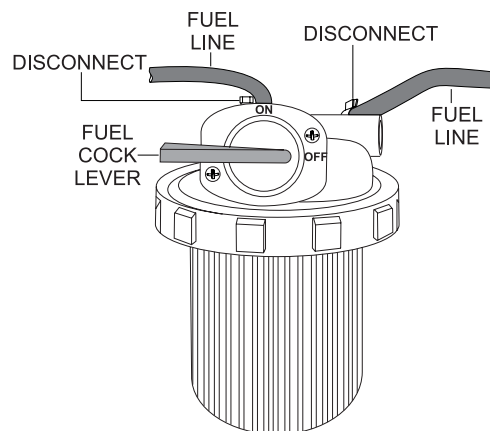

Figure 42. Fuel Filter Disconnection
1. Place the **fuel cock lever** (Figure 42) in the **OFF** (closed) position.
2. Disconnect the **fuel lines** (Figure 42) from the fuel filter.